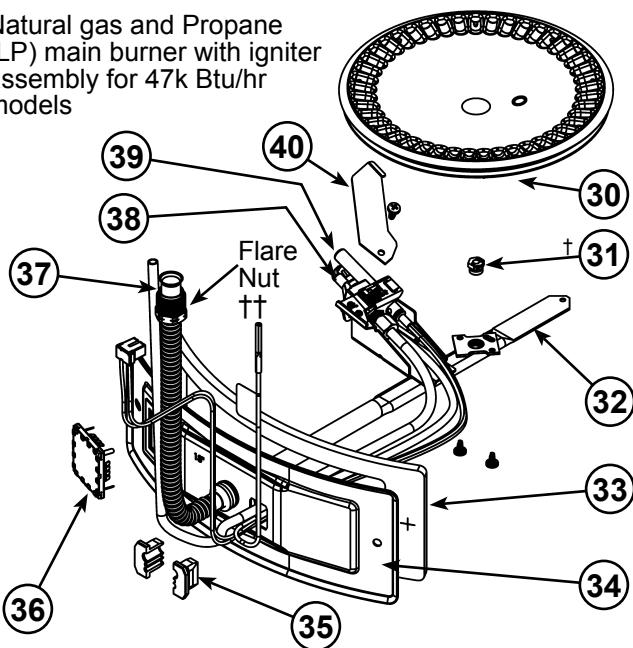

Figure 48
- 12 Manifold Door Assembly (behind outer door) (see Figure 3 & Figure 4) (see also **Figure 47 & Figure 48**)
- 15 Flexible Manifold Tube (see Figure 3 & Figure 4) (see also **Figure 47 & Figure 48**)
- 30 Sheet Metal Burner (see Figure 3 & Figure 4) (see see also **Figure 47 & Figure 48**)
- 31 Gas Orifice (see Figure 3 & Figure 4) (see also **Figure 47 & Figure 48**)
- 32 Gas Manifold (see Figure 3 & Figure 4) (see also **Figure 47 & Figure 48**)
- 33 Manifold Door Gasket (see Figure 3 & Figure 4) (see also **Figure 47 & Figure 48**)
- 34 Manifold Door (see Figure 3 & Figure 4) (see also **Figure 47 & Figure 48**)
- 35 Two Piece Grommet With Clip (see Figure 3 & Figure 4) (see also **Figure 47 & Figure 48**)
- 36 Viewport (see Figure 3 & Figure 4) (see also **Figure 47 & Figure 48**)
- 37 Flexible Manifold Tube (see Figure 3 & Figure 4) (see also **Figure 47 & Figure 48**)
- 38 Pilot (see Figure 3 & Figure 4) (see also **Figure 47 & Figure 48**)
- 39 Thermopile (see Figure 3 & Figure 4) (see also **Figure 47 & Figure 48**)
- 40 Pilot Shield (see Figure 3 & Figure 4) (see also **Figure 47 & Figure 48**)